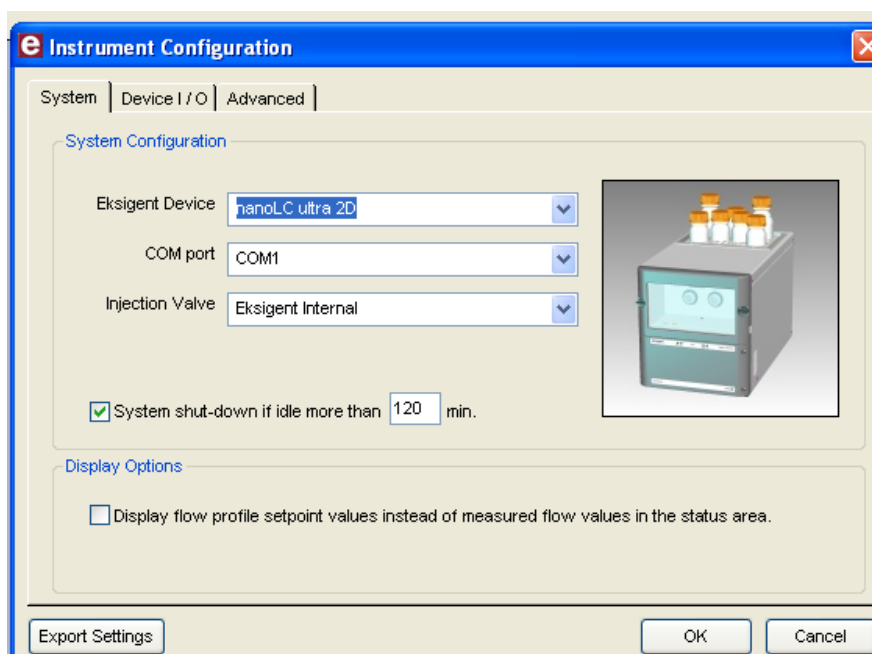

Figure 2-13 Instrument Configuration Dialog—System Tab
8. Select **System > Instrument Configuration** from the Eksigent control software's Acquisition window to access the **Instrument Configuration** dialog (Figure 2-13).